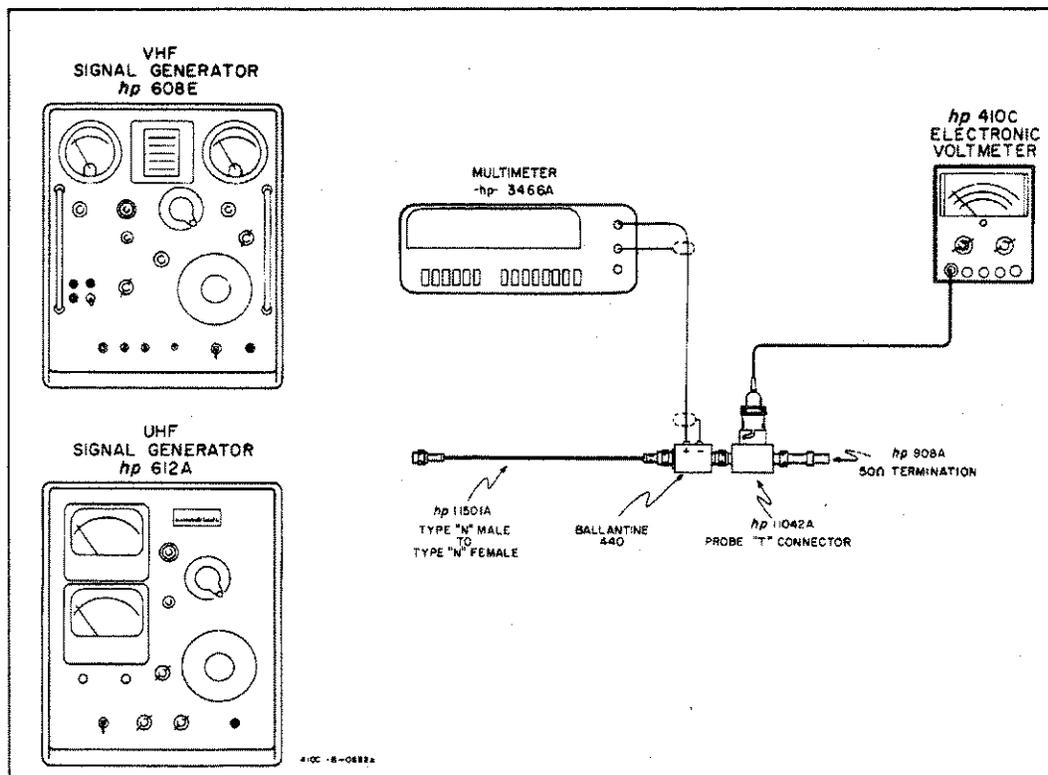

Figure 5-3. High Frequency Response Test.
a. A VHF Signal Generator (-hp- Model 608E), a UHF Signal Generator (-hp- Model 612A), a Probe-T Connector (-hp- Model 11042A), a Micropotentiometer (Ballantine Model 440), and a DC Voltmeter (-hp- Model 3466A) are required for this test. Figure 5-3 describes test arrangement to be used.
d. Replace VHF oscillator with UHF oscillator in Figure 5-3. Repeat steps b and c for UHF oscillator output frequencies from 480 MHz to 700 MHz.